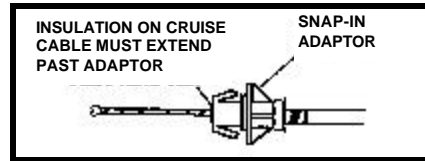

Figure 21
2. After the threads have been formed, screw the **SNAP-IN ADAPTOR** onto the **CRUISE CABLE**. **Figure 21**